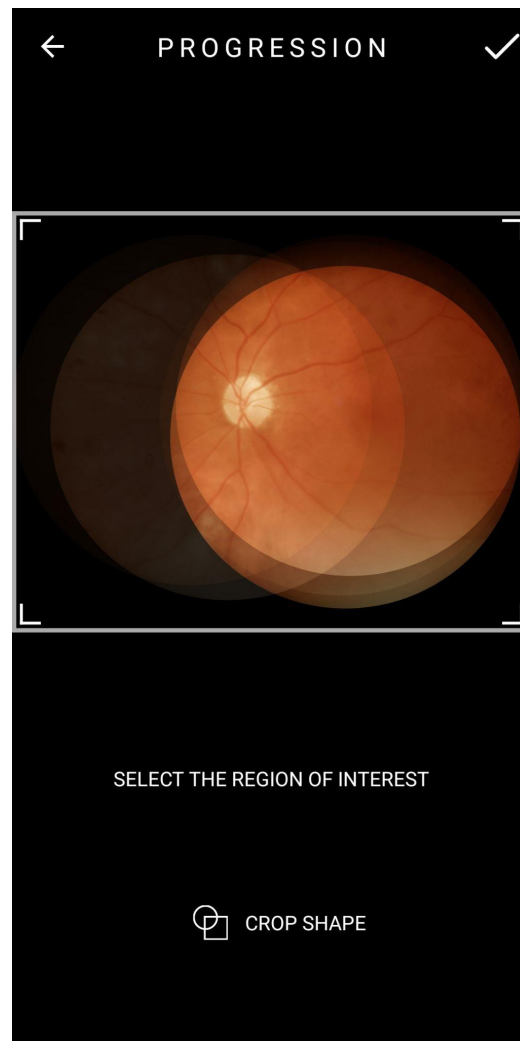

Figure 52: Selection area.
The chosen images will be displayed in contrast, with the darkest regions being common areas of the selected images. In “shape of the cutout”, Figure 52 - item 1, it is possible to select whether the format will be square or circular. Place the square that surrounds the image, , in the region you want to cut and confirm with the symbol , Figure 52 - item 2.